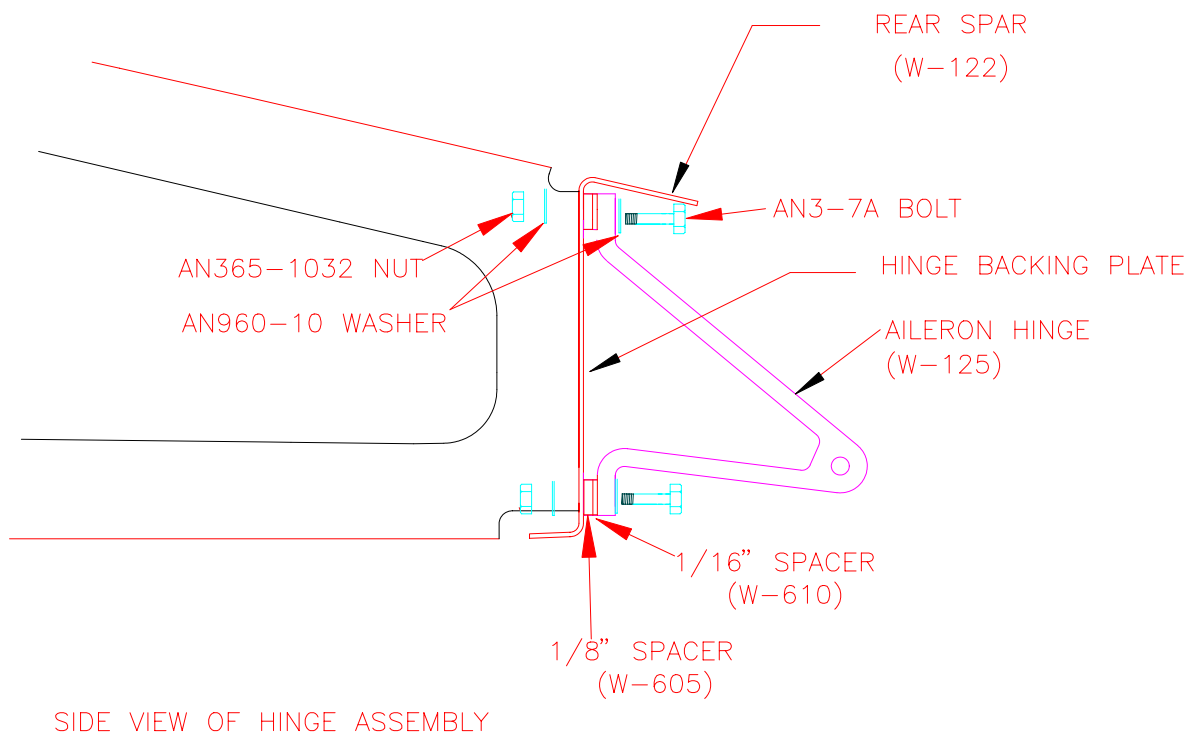

Figure 8.25.5
37) Bolt on the five Aileron Hinges (W-125) with a 1/8" Hinge Spacer (W-605) and a 1/16" Hinge Spacer (W-610). Figure 8.25.5.